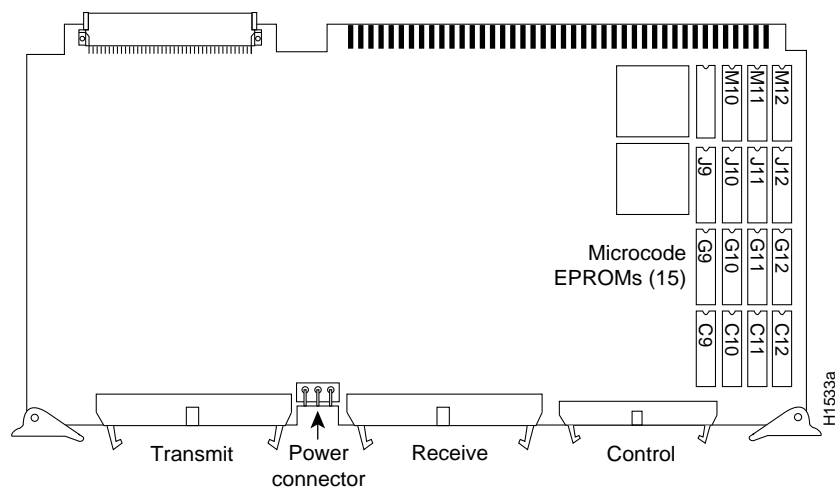

Figure 5-23 CSC-(C2)HSCI High-Speed Serial Interface (HSSI) Card—Component-Side View
- CSC-(C2)HSCI High-Speed Serial Interface (HSSI) card, Figure 5-23